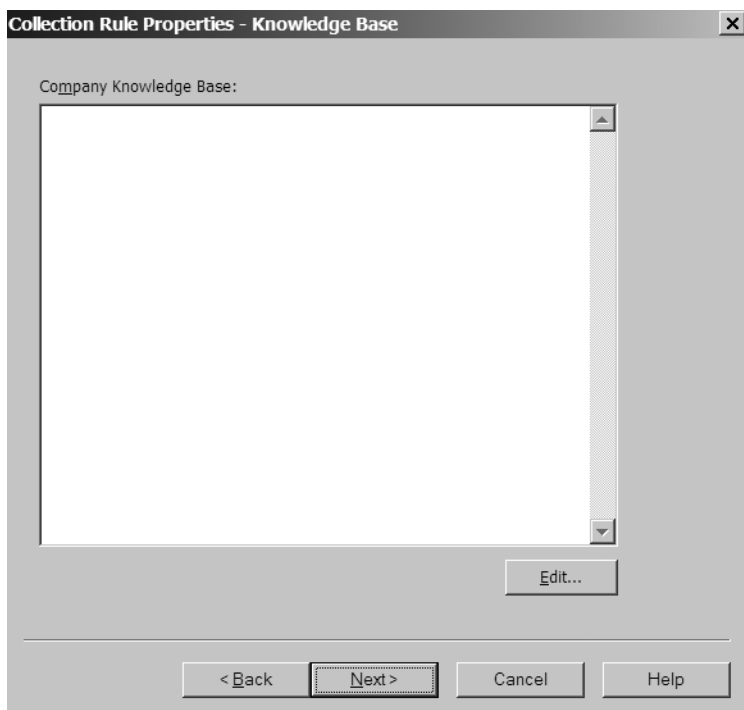

Figure 3-9. *The Knowledge Base window*
7. In the Collection Rule Properties - Knowledge Base window, enter the knowledge base details on a collection rule. After you have finished entering the details, click Next. This is shown in Figure 3-9.